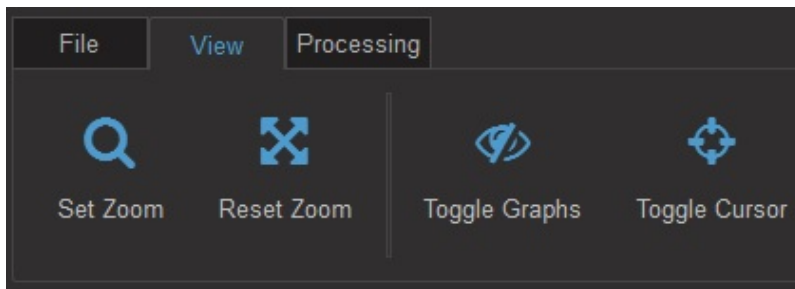

Figure 3.30: View Tab
2. The **View tab** (Fig. 3.30) is used to manipulate the appearance of the displayed data.